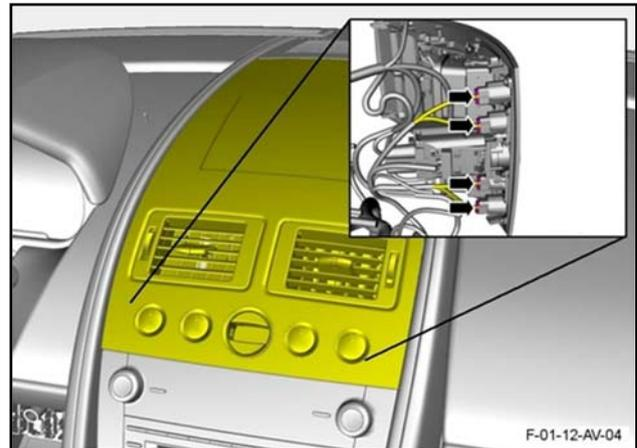

Figure 18
- 21. Connect the electrical connectors to each of the four transmission control switches (refer to Figure 18).